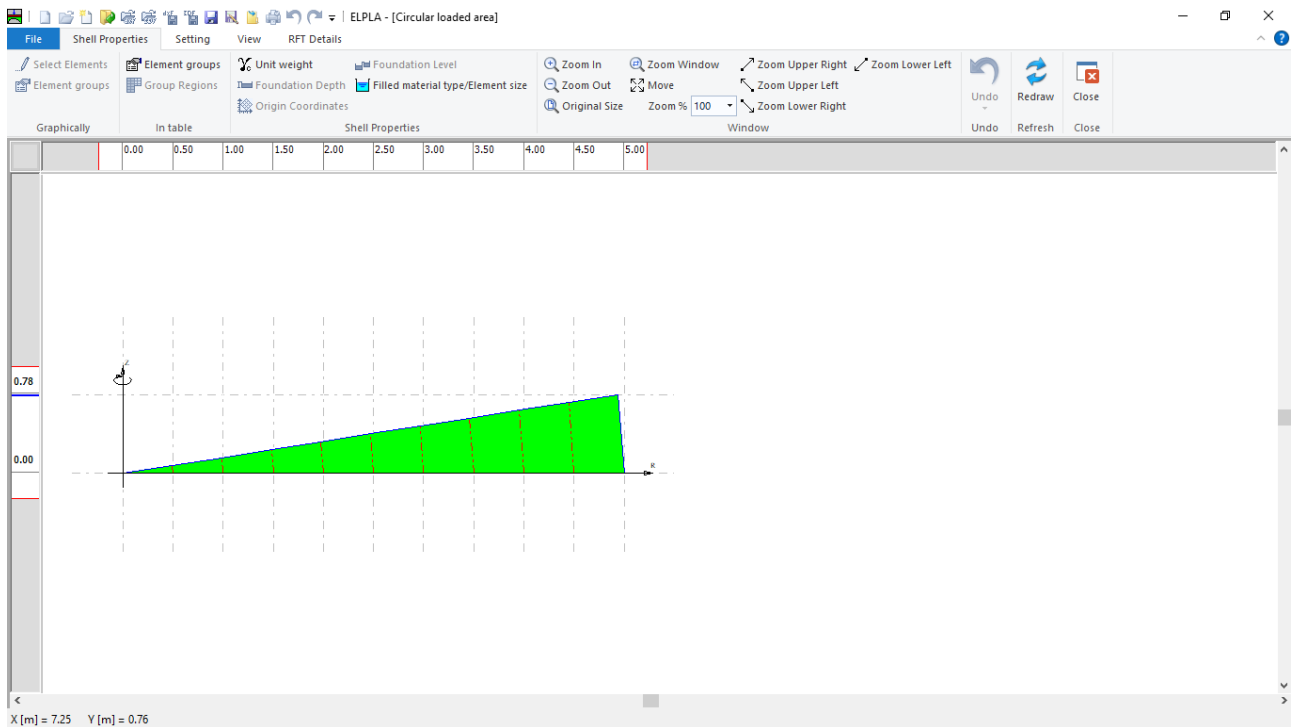
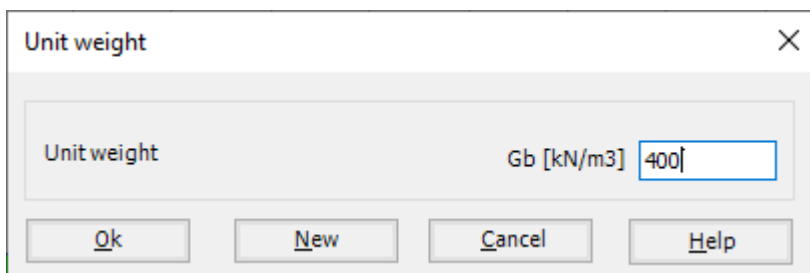

Figure 1.14 "Shell Properties" Window
Figure 1.16 "Unit weight" dialog box
To define the shell properties, choose "Shell Properties" command from "Data" Tab. The following window in Figure 1.14 appears with default shell properties. The data of shell properties for the current example, which are required to be defined, are element groups, and the unit weight of the shell. Any other data corresponding to shell properties in the program menus are not required for this example.
To enter the unit weight of the shell, choose "Unit weight" command from "Shell Properties" menu in the window of Figure 1.14. The following dialog box in Figure 1.16 with a default unit weight of 25 [kN/m3] appears. Type 400 in the "Unit weight" edit box, to define the uniform load on the circular area. Then click "OK" button.
- Choose "Save" command from "File" menu in Figure 1.14 to save the shell properties
- Choose "Close" command from "File" menu in Figure 1.14 to close the "Shell Properties" window and return to *ELPLA* main window